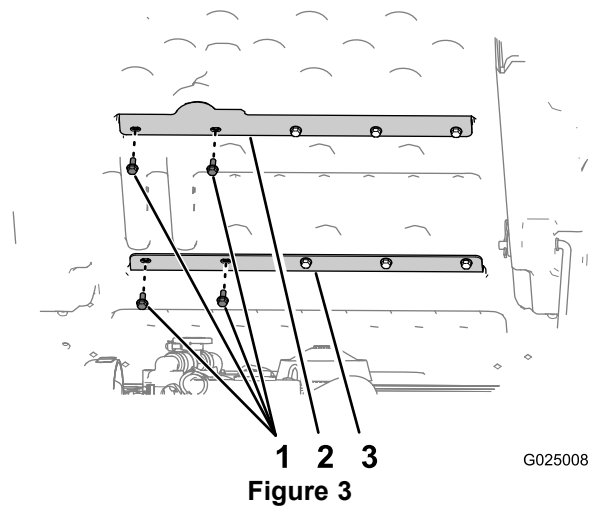

Figure 3
1. Remove the 2 left-most bolts (5/16 x 3/4 inch) that secure upper-bed brace to the bed (Figure 3).
2. Remove the 2 left-most bolts (5/16 x 3/4 inch) that secure lower-bed brace to the bed (Figure 3).